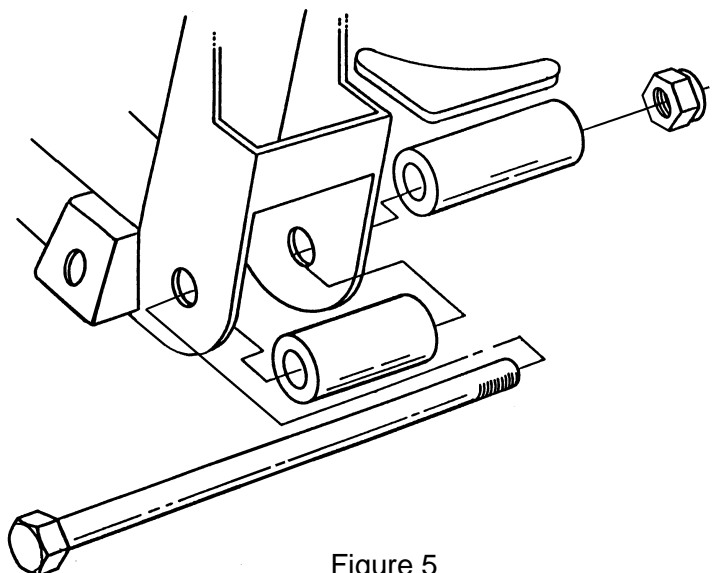

Figure 5
8. If you are using stock components, skip over this step. If you purchased a complete I.F.S. Package from *HEIDTS*, it was supplied with Full Lower A-Arms. Begin here by installing the Spacers onto the crossmember. The holes where the lower control arms attach to the Crossmember must be enlarged to 5/8". Mount the Crossmember Spacers and the Rear Spacers which were supplied with the Lower Control Arms as shown in Figure 5 onto the Crossmember using the supplied Inner Bushing Bolts, Nuts and a temporary spacer under the Nuts. DO NOT use the A-Arms for this operation as the welding heat will melt the rubber bushings. Tighten the Bolts and Nuts tight. Weld the Rear Spacers to the Crossmember all around. Weld the Crossmember Spacers as far as possible inside the crossmember on both ends. Position the Gussets horizontally, not vertically, against the Rear Spacers and the back of the Crossmember. Weld Gussets to Spacers and Crossmember. When it cools, remove the bolt.